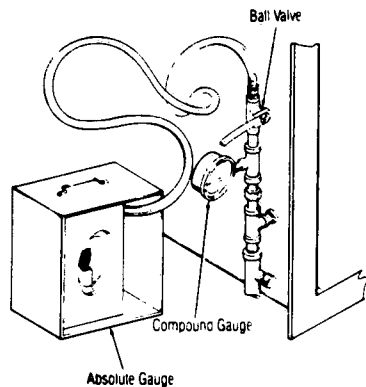

FIGURE 5-3 - Installing Test Gauges
2. Connect the calibrated compound pressure gauge to the 1/8" NPT opening at front center of washer/sterilizer chamber (see Figure 5-3).